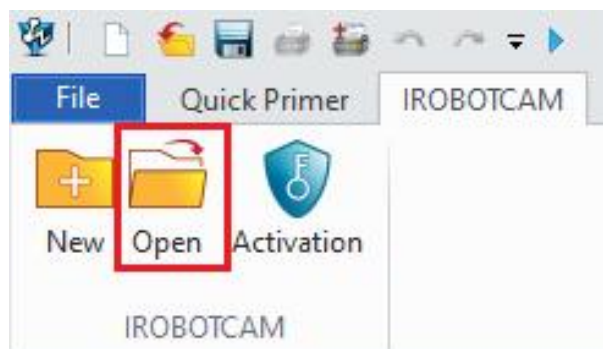

Figure 11-2: Open iRobotCAM project file
- Open iRobotCAM project file “Collision Detection. Z3” to enter the IROBOTCAM environment. (Figure 11-2)